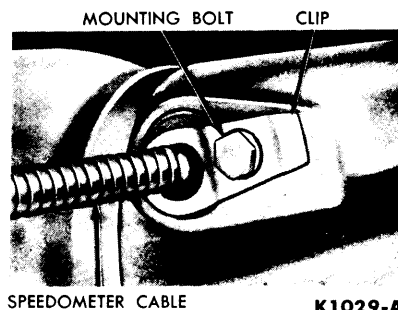

FIG. 6—Speedometer Cable Mounting
9. Remove one mounting bolt and disconnect the speedometer cable casing from the transmission (Fig. 6).